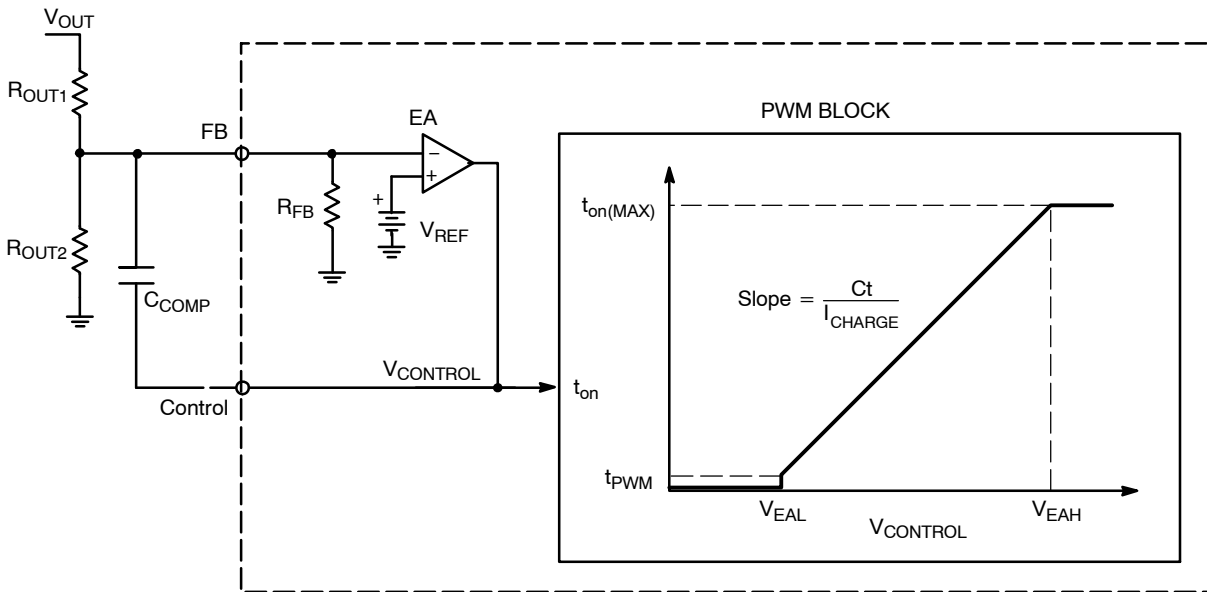

Figure 25. Error Amplifier and On Time Regulation Circuits
The NCP1607 is configured to regulate the boost output voltage based on its built in error amplifier (EA). The error amplifier’s negative terminal is pinned out to FB, the positive terminal is tied to a $2.5 V \pm 1.6\%$ reference, and the output is pinned out to Control (Figure 25).